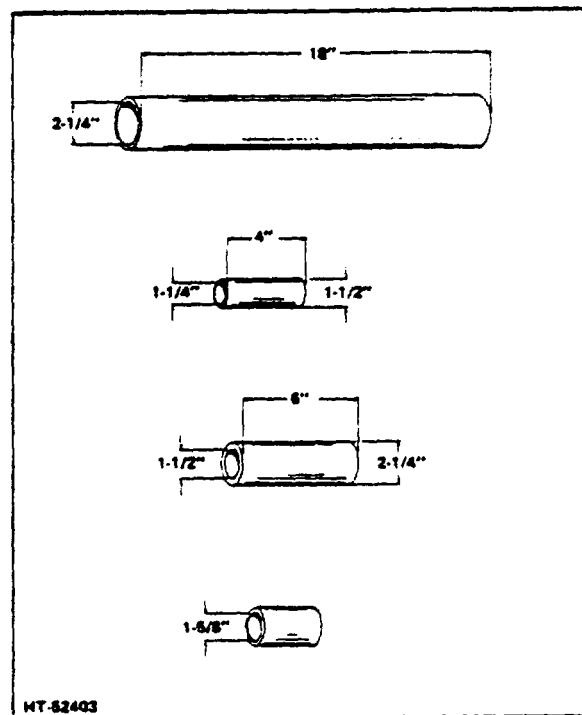

Figure 8-1. Armature Shaft Pipes
2. Place the drive end of the shaft in a heavy duty pipe approximately 2-1/4" ID and at least 18" long (Fig 8-1).